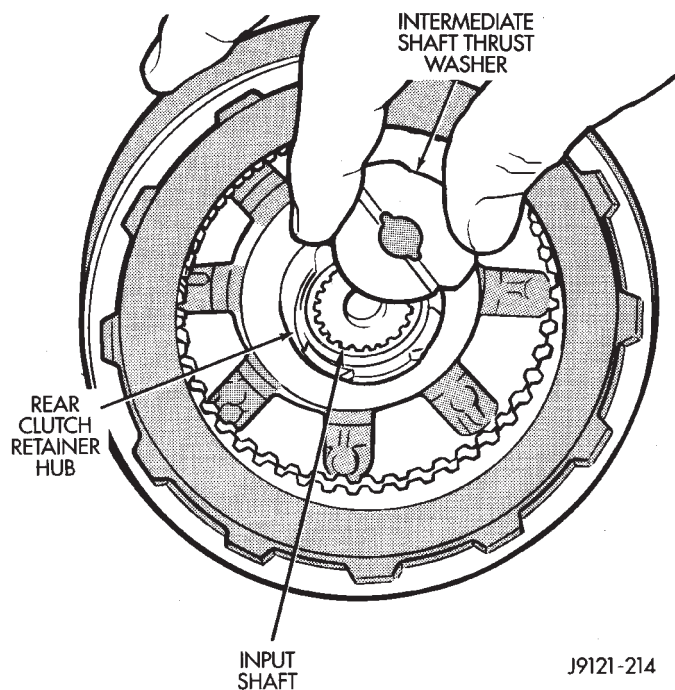

Fig. 116 Installing Intermediate Shaft Thrust Plate
(14) Coat intermediate shaft thrust washer with petroleum jelly. Then install washer in rear clutch hub (Fig. 116). Use enough petroleum jelly to hold washer in place. **Be sure grooved side of washer faces rearward (toward output shaft) as shown. Also note that washer only fits one way in clutch hub.** Note thickness of this washer. It is a select fit part and is used to control transmission end play.